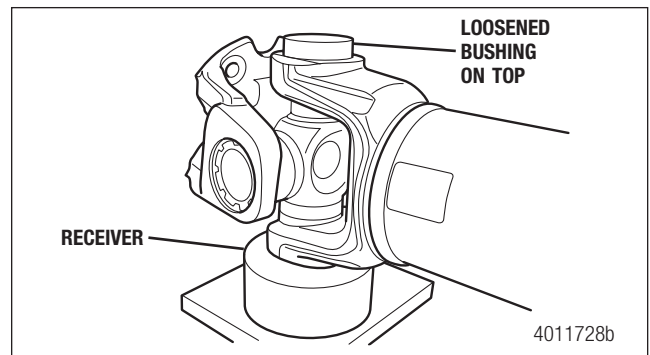

Figure 5.70
5. Rotate the universal joint 180 degrees to the other end. Figure 5.70.